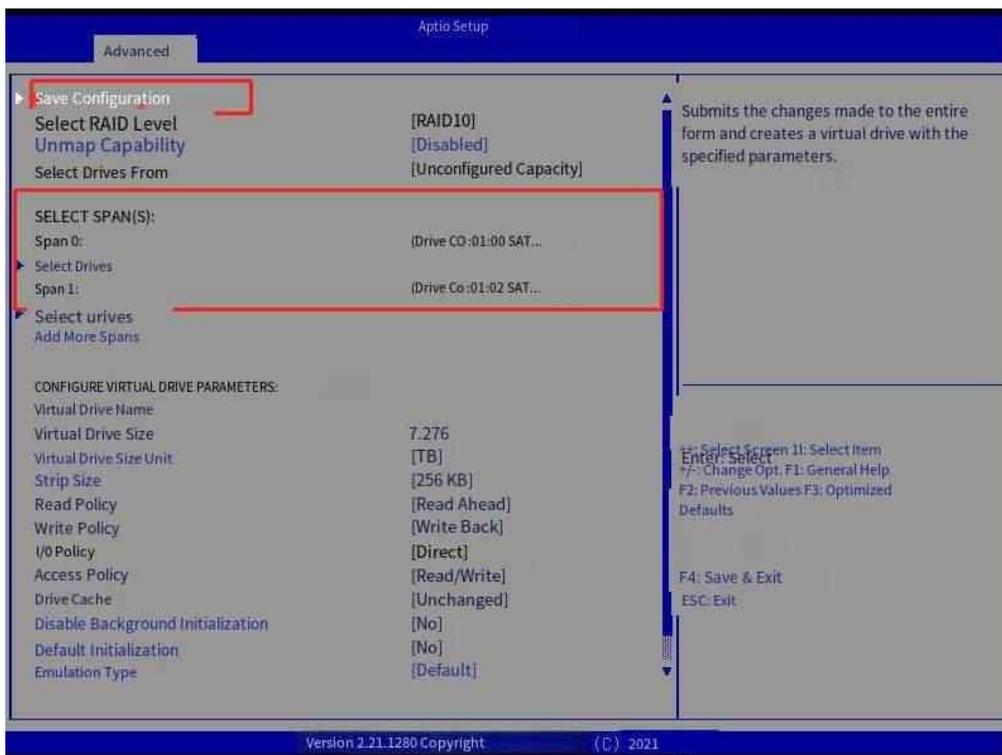
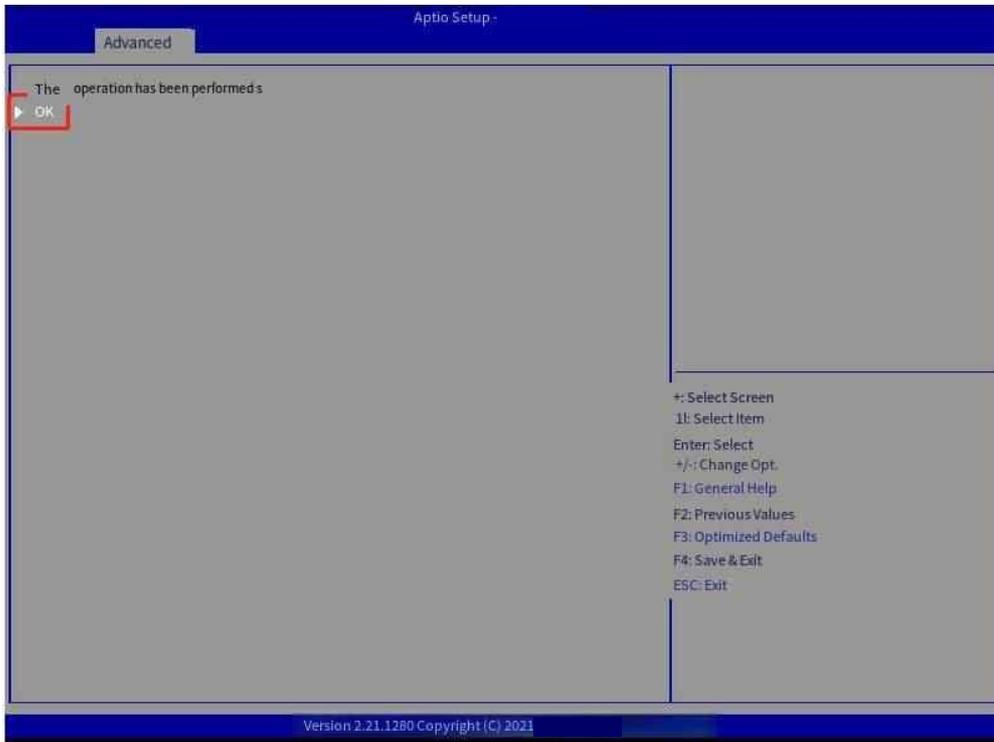

Figure 7-29 Press enter to select Save Configuration
Figure 7-31 Click ok
Step 5: Select Save Configuration and press enter to create RAID10 (Figure 7-29 Figure 7-30, Figure 7-31)